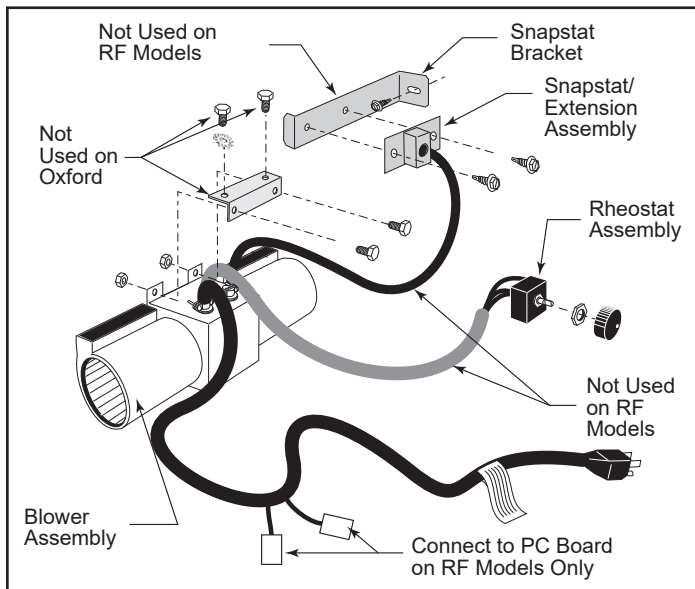

Figure 12 - Fan kit components.
1. The fan kit includes a Blower Assembly and a Rheostat Assembly, connected by a cable. (Figure 12) The Blower Assembly mounts to the bottom rear of the stove, and the Rheostat mounts to the valve cover plate. The assembly includes a 'snapstat' which automatically turns the fan On (or Off) above (or below) approximately 109°. The Rheostat also provides a range of fan speed settings from Off (which overrides the snapstat function) to High. Unpack and inspect the Blower assembly. Confirm that the fan spins freely.